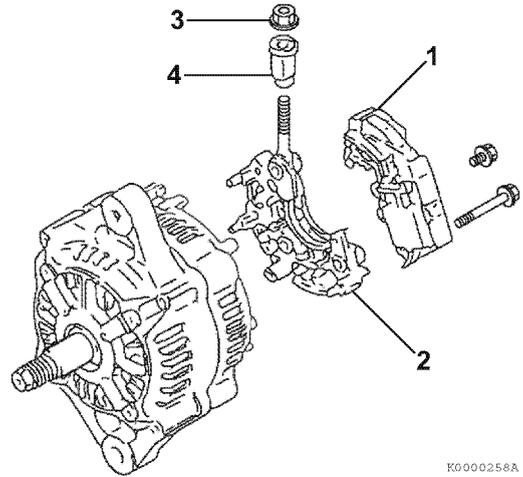

Figure 12-8
4. Remove the bolt retaining the regulator assembly (1, **Figure 12-8**) to the holder (2, **Figure 12-8**).
5. Remove the bolts retaining the holder (2, **Figure 12-8**) to the rear frame housing. Remove the holder.
6. Remove the nut (3, **Figure 12-8**) retaining the insulation bushing (4, **Figure 12-8**). Remove the insulation bushing.